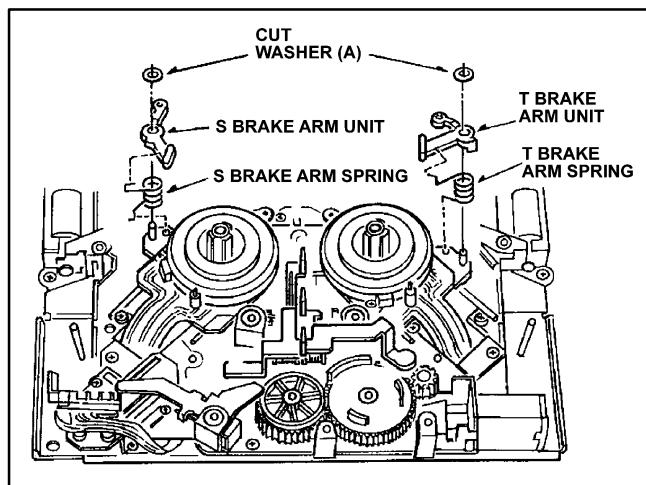

Figure. 1-7
2. Remove the cut washers (A) and remove the supply and Take Up Brake Arm Unit as shown in Figure 1-7.
1. When install the new Brake Arm Unit first, hang on the Brake Arm Spring as shown in Figure 1-7.